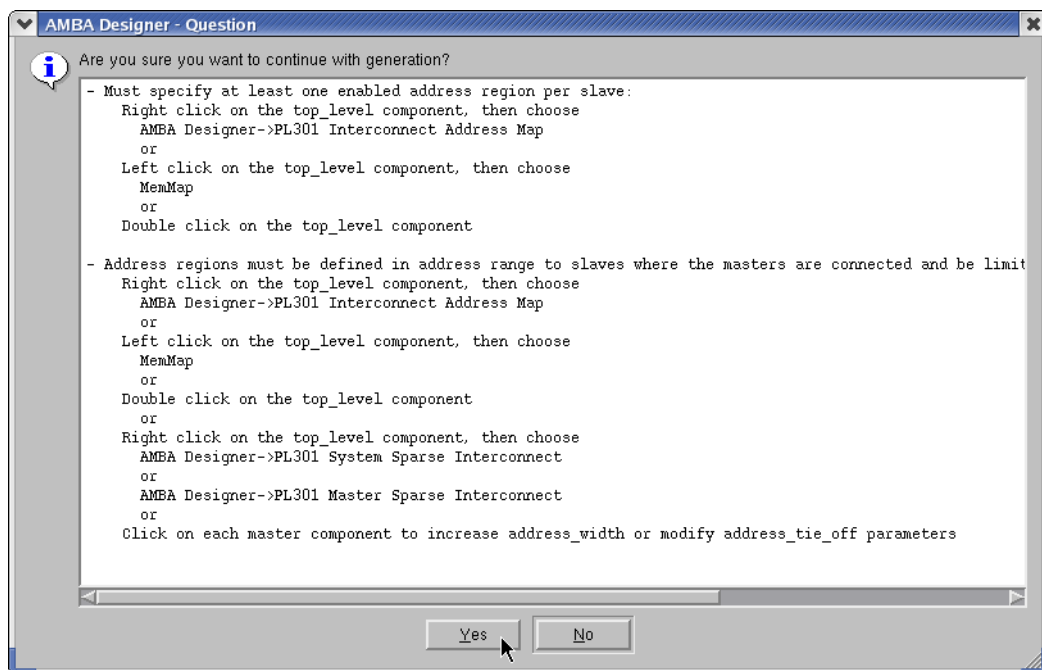

Figure 4-34 Question dialog
3. In the Question dialog box, click on **Yes** as Figure 4-34 on page 4-37 shows.